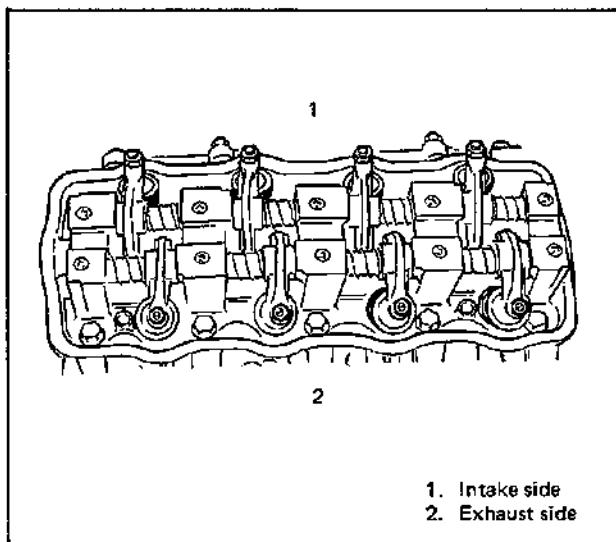

Fig. 6A-77 Rocker Arms, Springs and Rocker Arm Shafts Installation
4. Timing belt inside cover and camshaft pulley. Fit pulley pin on camshaft into slot on cam-shaft pulley. With locking camshaft as shown in Fig. 6A-78, tighten pulley bolt to specified torque.